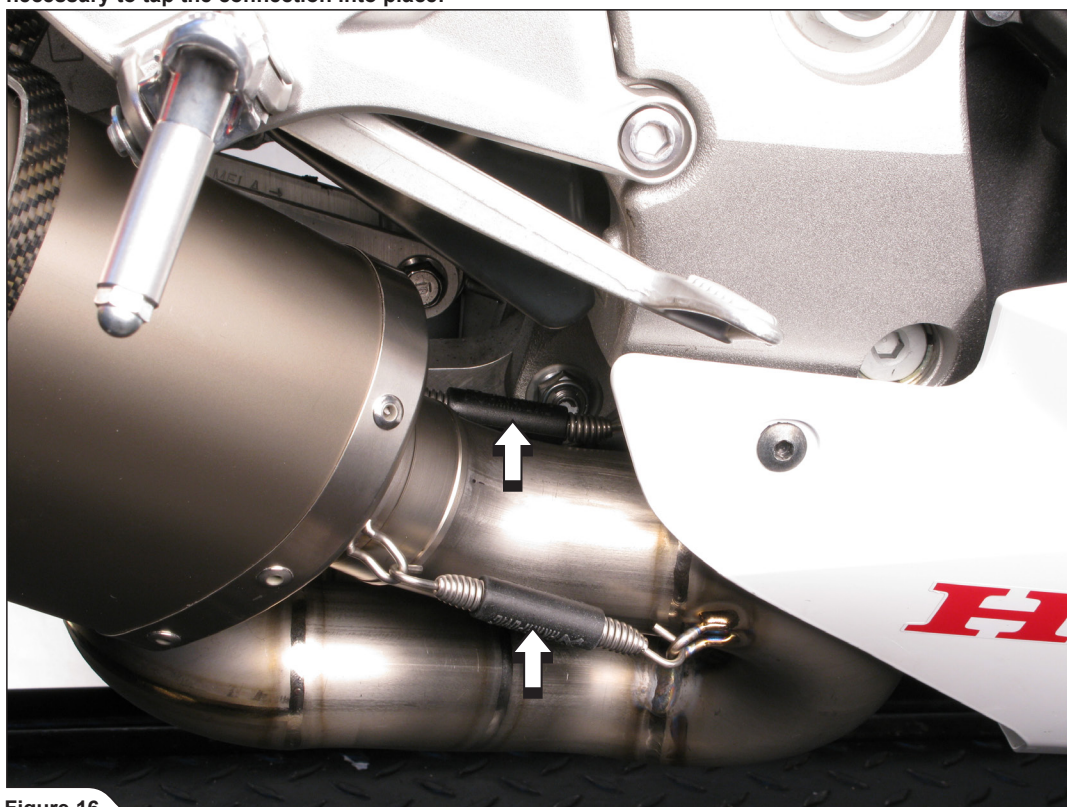

Figure 16
7. Position the muffler correctly and slide it onto the outlet side of the link pipe. Attach the springs (**Figure 16**).